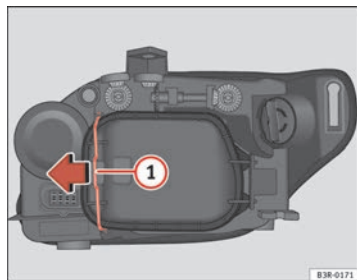

Fig. 208 Dipped beam headlights
Although it is not necessary, previously remove the rigid cover ⇒ page 272, fig. 208 for easier turn signal bulb changes. ■
- Move the brace ⇒ fig. 208 ① in the direction of the arrow and remove the rigid cover, separating the brace side and then removing the two tabs from the other end of the cover.